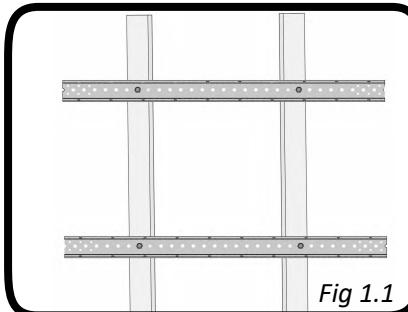

Fig 1.1
2. Install SmartTracks so each is across two ceiling joists. Place them 15" apart on center above the vehicle's intended location. (Fig 1.1)